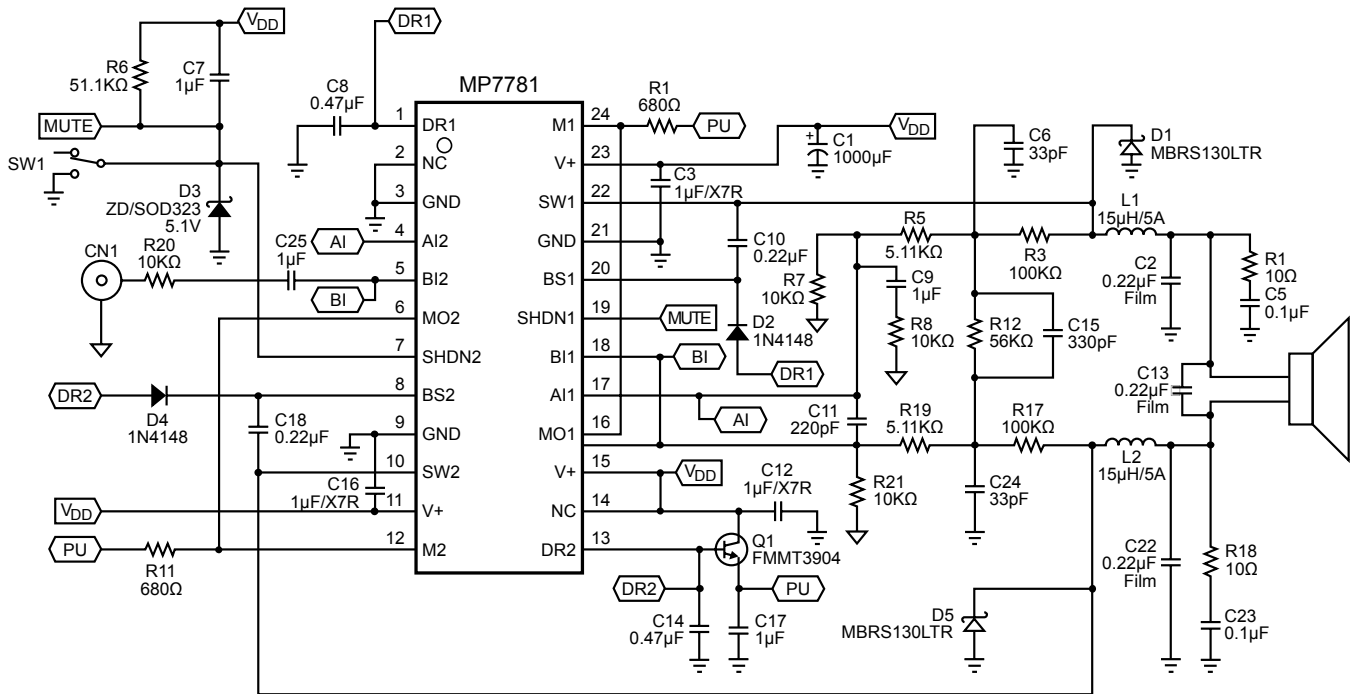

Figure 1: Mono Full Bridge Circuit
Electrical Specifications (Circuit of Figure 1, V_{DD}=24V, unless otherwise specified, T_A=25 °C)
Operating Specifications (Circuit of Figure 1, V_{DD} = 24V, R_L = 4Ω unless otherwise specified, T_A = 25 °C)
The amplifier uses a differential input to the modulators. AI1 and AI2 are the positive inputs and BI1 and BI2 are the negative inputs, as shown in Figure 1. The input capacitor C25 blocks DC current at the input. The resistors, R12, R3, R5, R7, R17, R19, and R21, set the quiescent output voltage of each side of the speaker terminal voltage to the $V_{DD}/2$.
The amplifier voltage gain is set by the combination of R20, R3, R5, R7, R17, R19, R21, and R12. The circuit of Figure 1 produces both side with a voltage gain of 10 V/V. Since channel 1 and channel 2 are 180° out of phase, the total amplifier voltage gain is:
Where A_V total is the total voltage gain, A_V power is the voltage gain of a single channel of the MP7781. The circuit of Figure 1 produces a overall voltage gain of 20. This is suitable for a 1Vrms input signal and $V_{DD} = 24V$, with some clipping at the highest output power level.
The MP7781 uses a minimum number of external components to complete a Digital audio amplifier. The circuit of Figure 1 is optimized for a 24V power supply and a 1V RMS input signal.
The Inductor-Capacitor (LC) filter converts the pulse trains at SW1 and SW2 to the output voltage that drives the speaker. Typical values for the LC filter are shown in Figure 1, L1 and L2 = 15 μ H inductor and C2, C22, and C13 = 0.22 μ F.